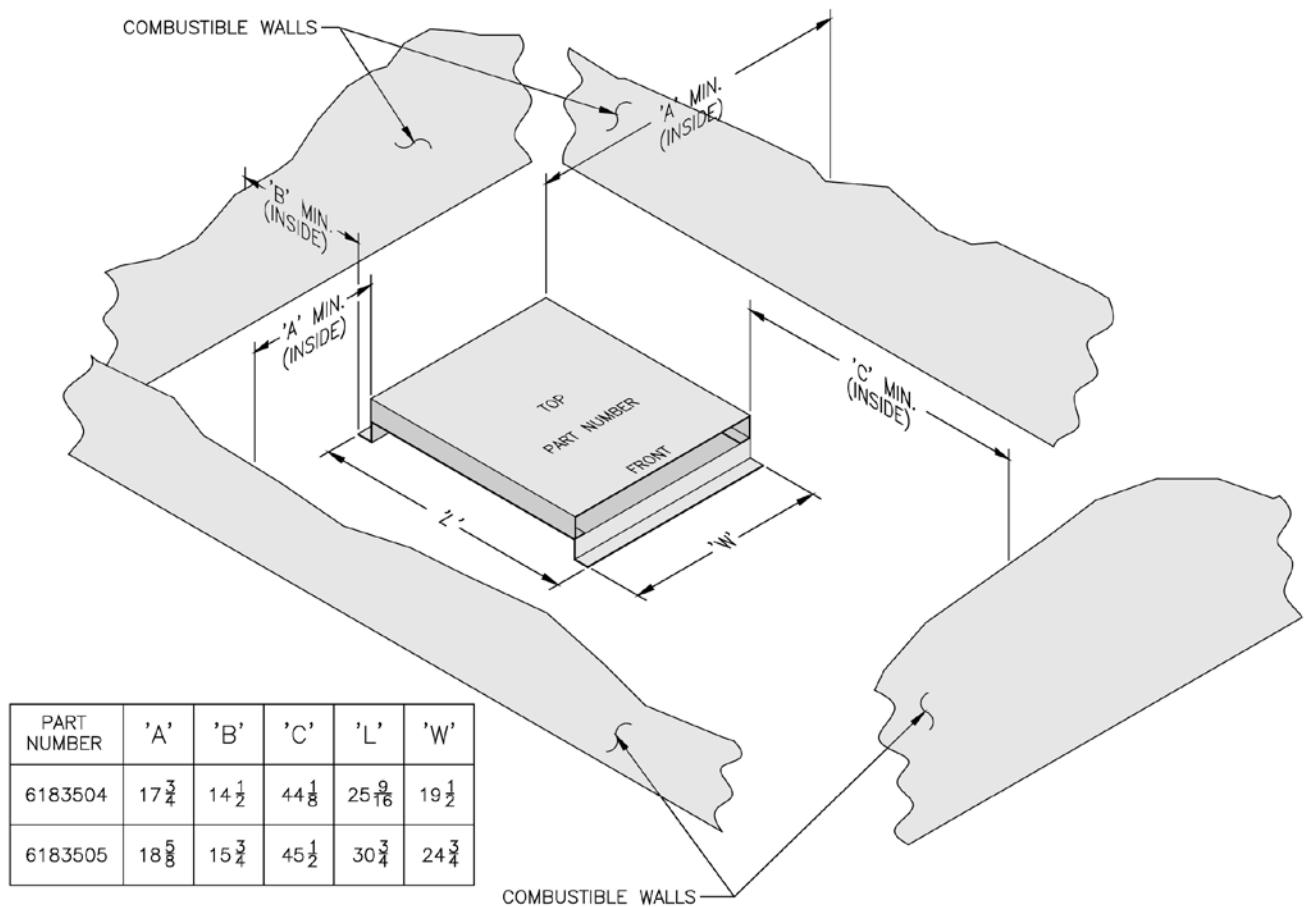

Figure 26
- 2) Locate shield such that clearances to combustible walls are as indicated in Figure 26. These dimensions will assure that the boiler jacket will be at least 18" from the side and rear walls and 48" from the front wall, as required by ANSI/NFPA 31.